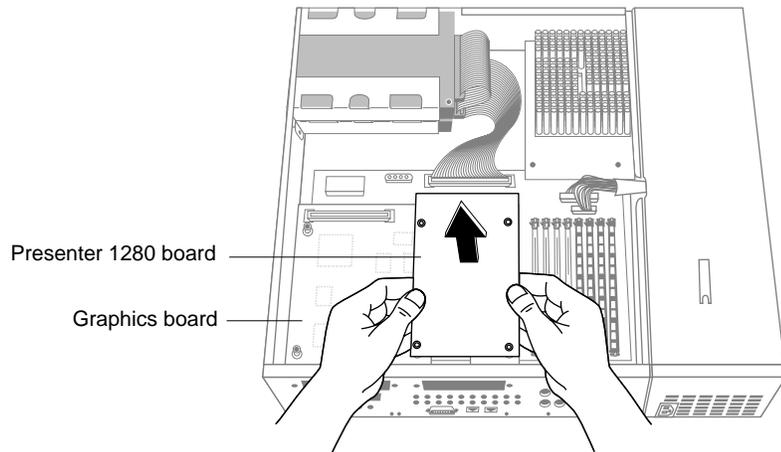

Figure 4-4 Removing the Presenter 1280 Board
5. Disconnect the Presenter 1280 board from the graphics board by grasping it on both sides firmly and pulling it up, as shown in Figure 4-4.